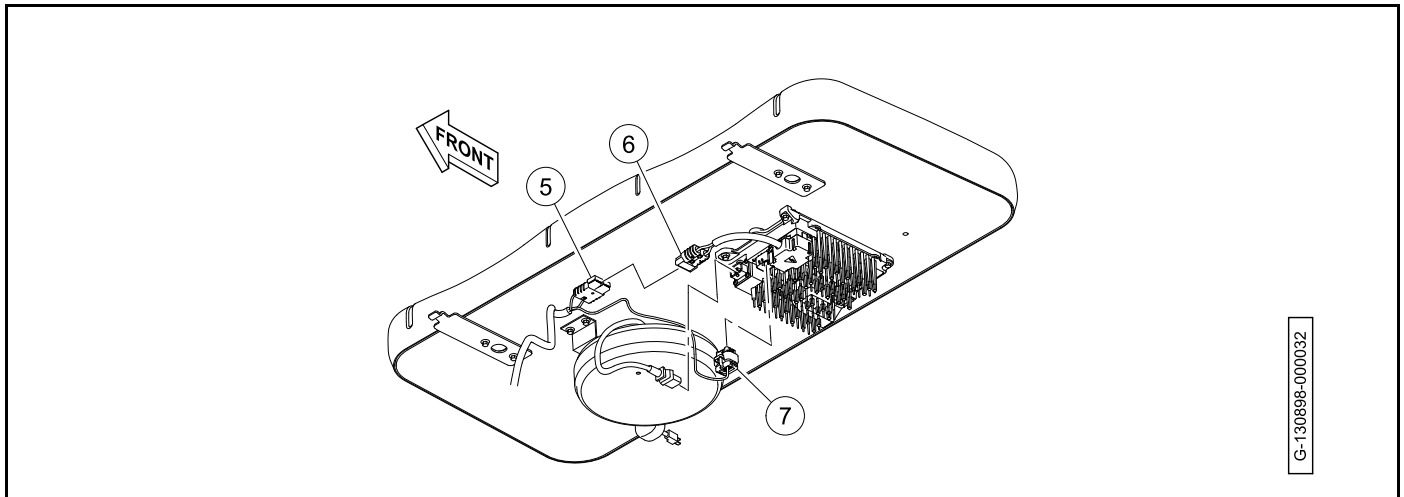

Figure 15-33 Charger Harness Connections
8. Disconnect the charger harness (5) from the charger power harness (6) (Figure 15-33).